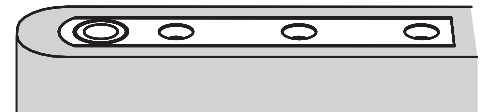

Figure 4
2. Install door portion of top pivot in door using three (3) 1/4-20 x 3/4" FHMS or #14 x 1-1/2" FHWS. (Figure 4) Refer to template PS30220.